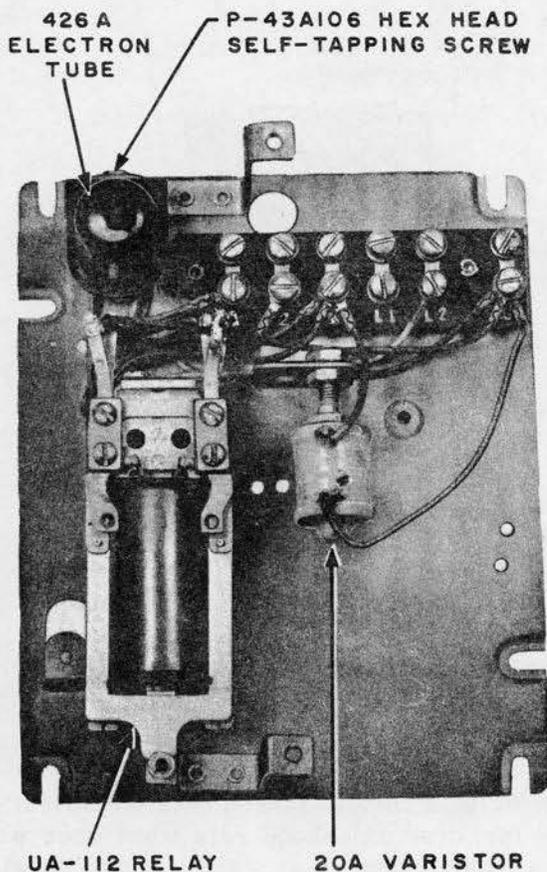

Fig. 9 - 687B Subscriber Set, Internal View
- (b) 687B: Provides auxiliary signal facilities for 4-party selective and 8-party semi-selective services (Fig. 9).